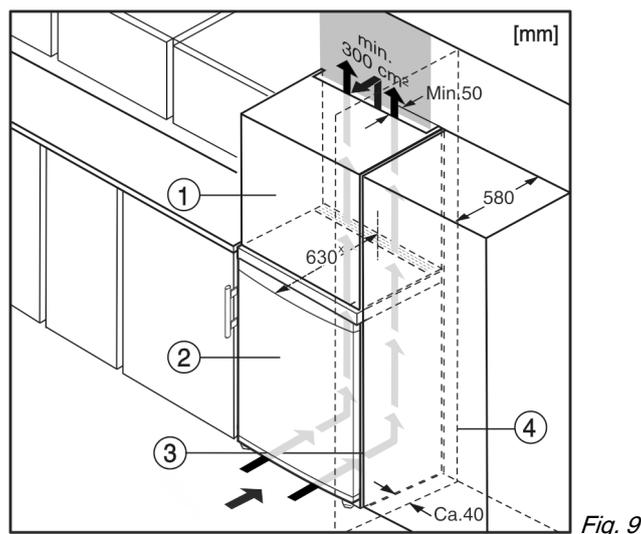

Fig. 9
- (1) Top cupboard* (3) Kitchen cabinet*
(2) Appliance* (4) Wall*
The appliance can be built into kitchen units. A top cupboard Fig. 9 (2) can be added above the appliance in order to bring the appliance Fig. 9 (1) up to the height of the fitted kitchen units.
If you are integrating the appliance into a kitchen unit (max. depth 580 mm) you can install it right next to the kitchen cabinet Fig. 9 (3). The appliance measures 34 mm * at the side and 50 mm * at the centre in relation to the front of the kitchen cabinet.*
If you are installing the appliance with the hinges next to a wall Fig. 9 (4), the distance between the appliance and the wall must be at least 40 mm. This is how far the handle protrudes when the door is open.*